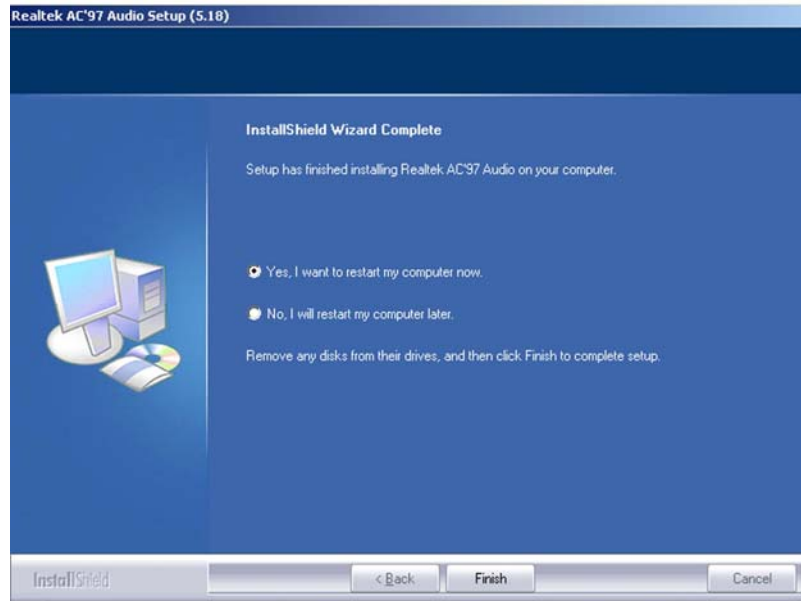

Figure 7-30: AC`97 Audio Driver Installation Complete
Step 9: After the driver installation process is complete, a confirmation screen shown in **Figure 7-30** appears.
Step 10: The confirmation screen shown in **Figure 7-30** allows you to restart the computer immediately after the installation is complete or to restart the computer later. For the settings to take effect the computer must be restarted. Once you have decided when to restart the computer, click the “**FINISH**” button.